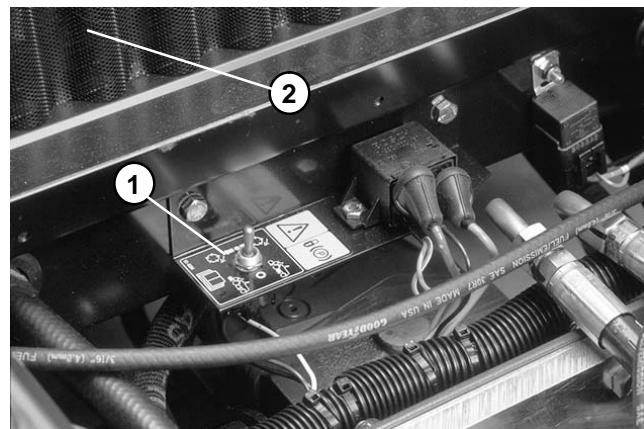

Figure 31
5. Select either the front or rear on the backlap switch to determine which units to backlap (Fig. 31).